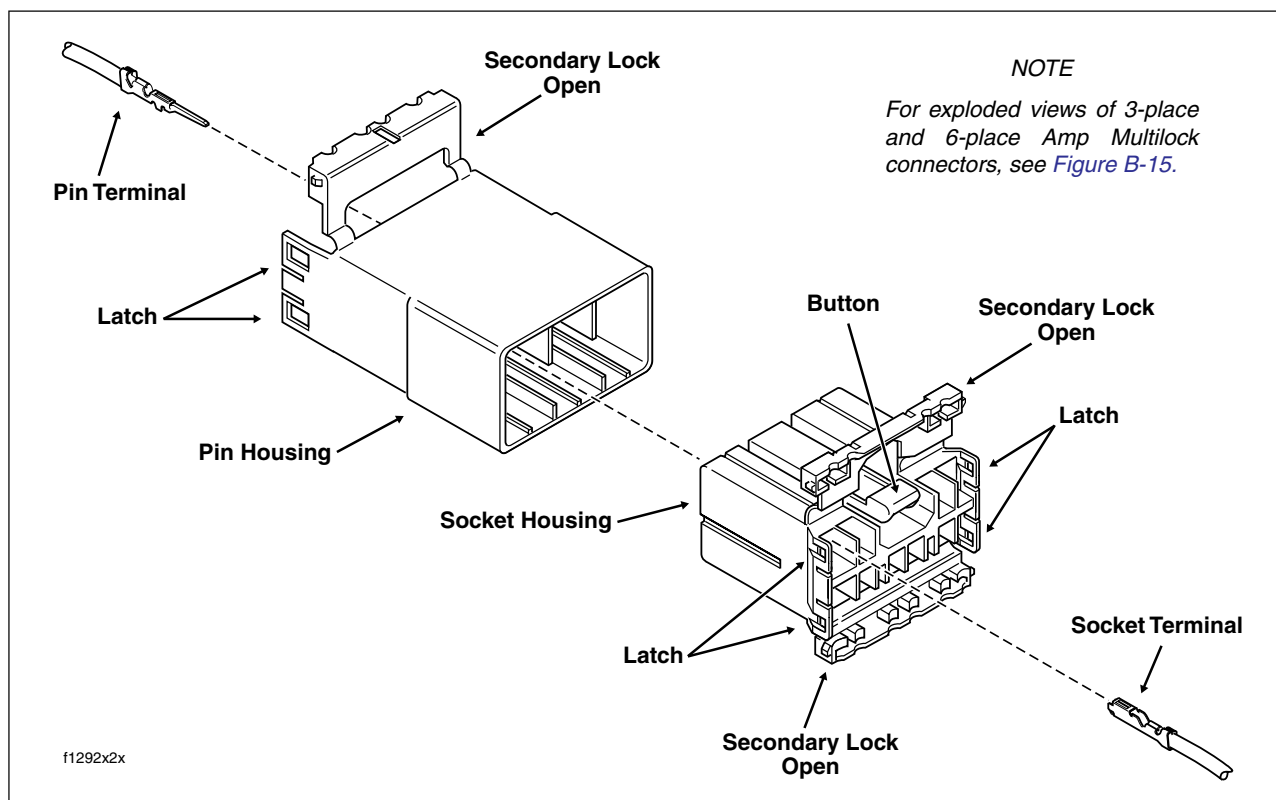

Figure B-11. 10-Place Amp Multilock Connector (Exploded View)
2. Depress the button on the socket terminal side of the connector (plug) and pull apart the pin and socket halves. See Figure B-11.